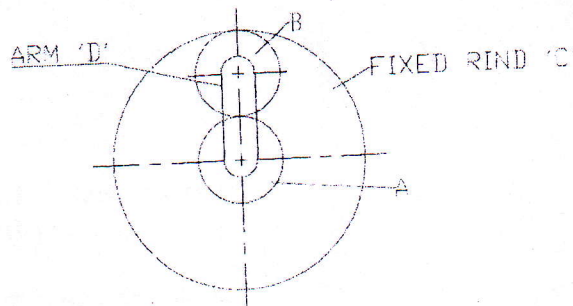

Figure 2
- (a) A planetary gear train is shown in figure.2 . The sun gear A rotates in a counter clockwise direction and transmit 3.5 KW power at 1440 rpm to the gear train. The number of teeth on sun gear A, planet gear B and the fixed ring C are 30, 60 and 150 respectively. The module is 5 mm and the pressure angle 20° . Draw a free body diagram of forces acting on each gear and calculate the torque that the arm D can deliver to its output shaft. [08]